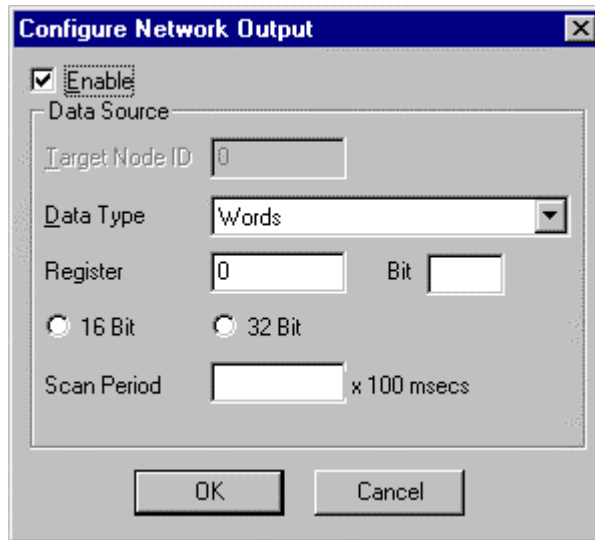

Figure 14.4 – Configure Network Output
6. From the **Configure Network Output** window (Figure 14.4) enable the **Data Source** box and define the automation equipment register that is to be outputted to the network. The **Scan Period** determines how often the network checks the value in the register for changes.